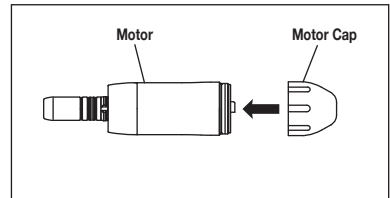
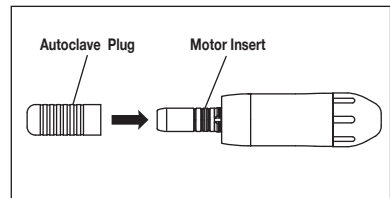

Fig. 11
Fig. 12
- 4) Screw the Motor Cap to the Motor. (Fig. 11) Put the Autoclave plug to the motor insert. (Fig. 12)